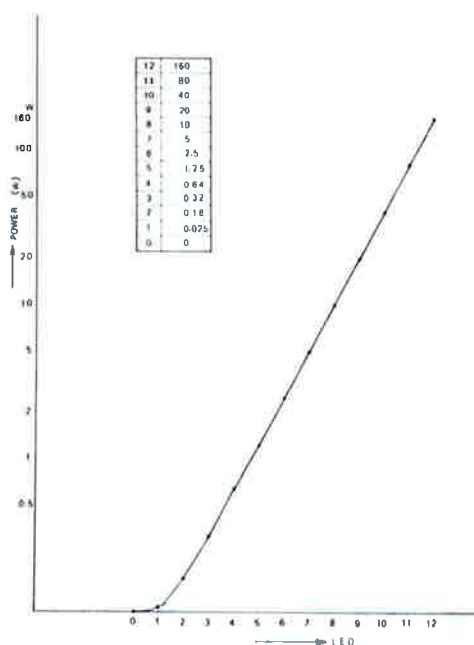

Figure 8. LED Power Level Indicator Characteristic
4. The power level indicator characteristic is shown in Figure 8.